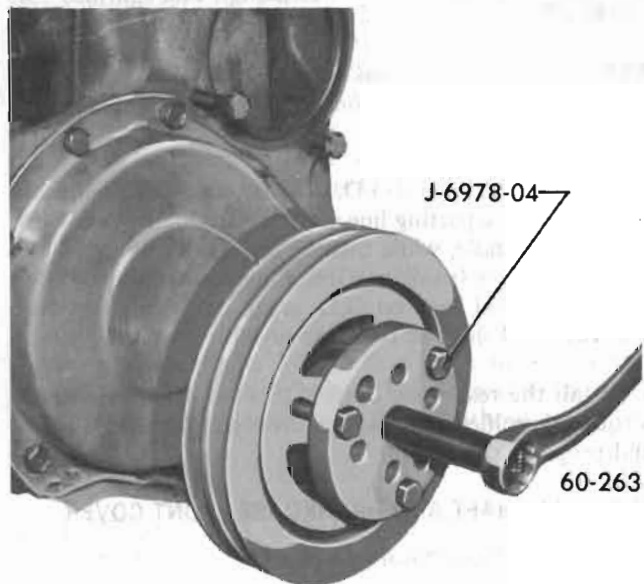

Figure 60-29 - Removing Torsional Damper
3. Install Tool J-6978 to torsional damper and turn puller screw to remove damper. See Figure 60-29.